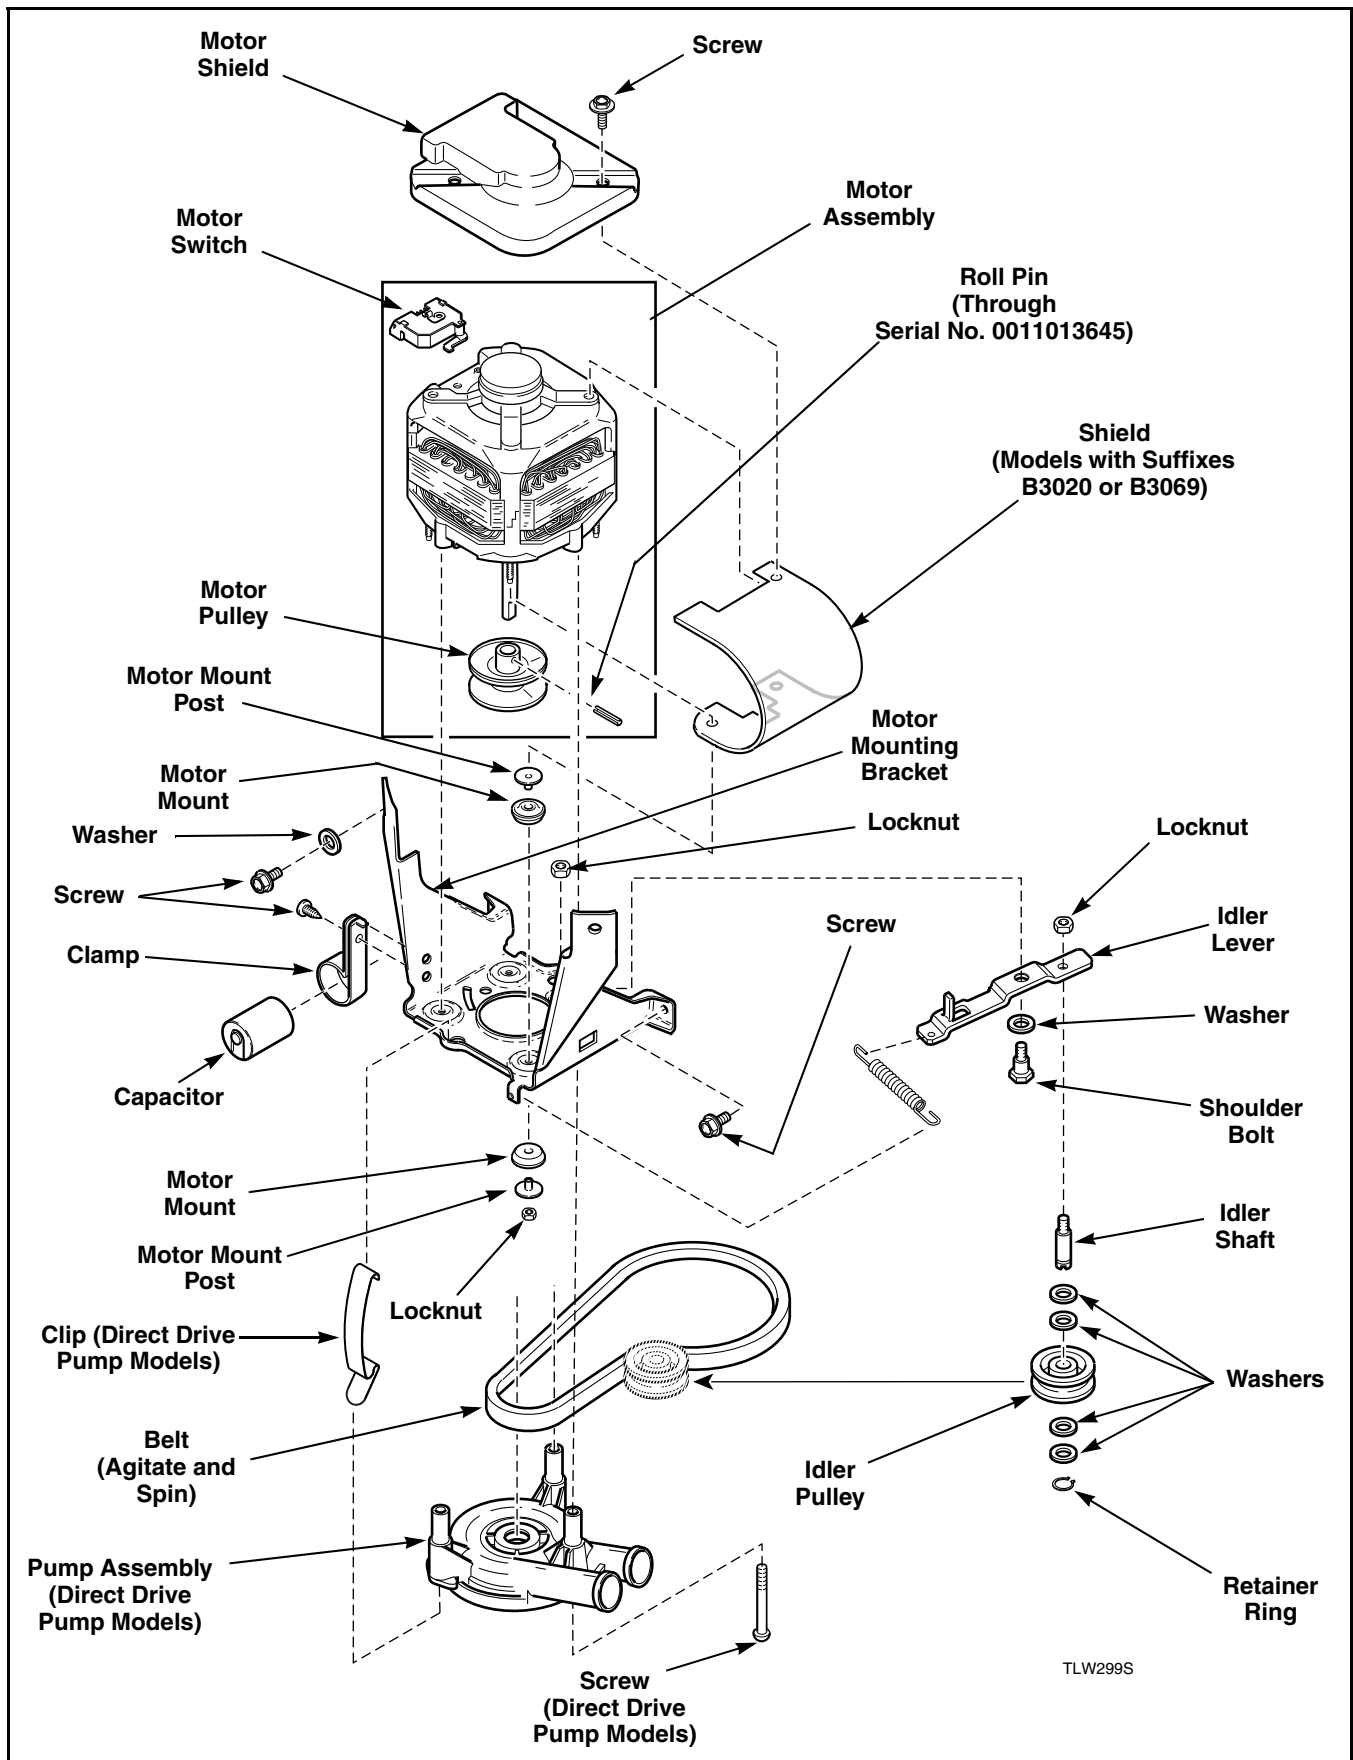

Figure 31
Remove nuts, steel washers, spacers and rubber mounts holding motor to mounting bracket. Refer to *Figure 31*. Lift motor off mounting bracket and remove balance of rubber mounts and steel washers from motor mounting studs.
NOTE: Refer to *Figure 31* for motor and mounting bracket assembly sequence.
- Remove locknut, washer and shoulder bolt holding idler lever and pulley to motor mounting bracket. Refer to *Figure 31*.
NOTE: Refer to *Figure 31* for idler lever and pulley assembly sequence.